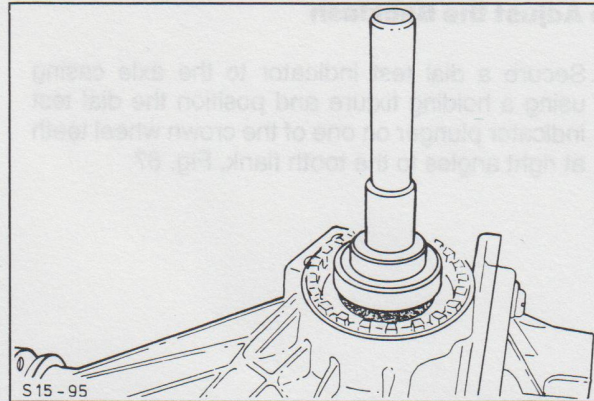

Fig. 69. Fit oil seal in bearing housing.
41. Fit new driveshaft oil seals in both bearing housings using Special Tool 15-076, Fig. 69.